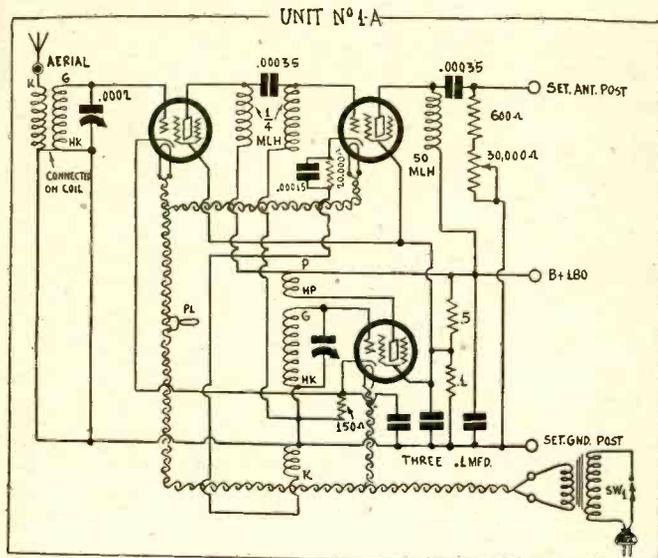

Fig. 1
THE tuning curve of the all-wave converter diagrammed in Fig. 1 is such that, with an intermediate frequency of 1,500 kc, the lowest broadcast frequency comes in at 89 on the oscillator dial and the highest broadcast frequency at 42, using the larger of the two plug-in coils intended for the oscillator circuit. The principal tuning is done by virtue of the oscillator action, and it is the oscillator condenser alone that is actuated by the National dial. The other condenser, across the modulator grid circuit, while it is effective enough to tune out a weak signal, or to bring in a few different broadcast frequencies without moving the oscillator setting if the signals are very loud, is after all a secondary consideration in the tuning.
The winding terminals are brought out to prongs of the coil forms, and these prongs fit into a five-prong tube socket (UY type). The method of bringing out the leads for Fig. 1 was as follows, winding from bottom up: Antenna coil, cathode prong (K) to aerial; heater adjoining cathode (HK) to ground and grid prong (G) to grid. By this method ground is nearer to grid than is antenna, in a physical examination of the winding, and the antenna might be assumed to be grounded, pickup being prevented. If the number of antenna primary turns were very small this might be relatively true, but with a generous primary here, the effect is one of mutual induction, and the coupling is wholly adequate. The antenna primary therefore may consist of 20 turns and the tuned winding, 112 turns, using No. 28 enamel wire. These are equivalent to 132 turns tapped at the 15th.
The oscillator coil, from bottom up, has pickup winding at bottom, grid winding next, plate winding at top. The secondary has cathode prong (K) connected to the cathode circuit of the modulator tube, as diagrammed in Fig. 1; heater adjoining cathode (HK) connected to ground; grid prong (G) connected to grid; heater adjoining plate (HP) to B plus, and plate prong (P) to plate, if the windings are in the same direction. If the oscillator plate winding and grid winding are put on in opposite directions, then HP goes to plate and P prong to B plus, as marked in Fig. 1. It is immaterial which method is used, but imperative that it must be one method when the windings are in the same direction, and the other when they are in opposite directions, otherwise the oscillator will not be what its name